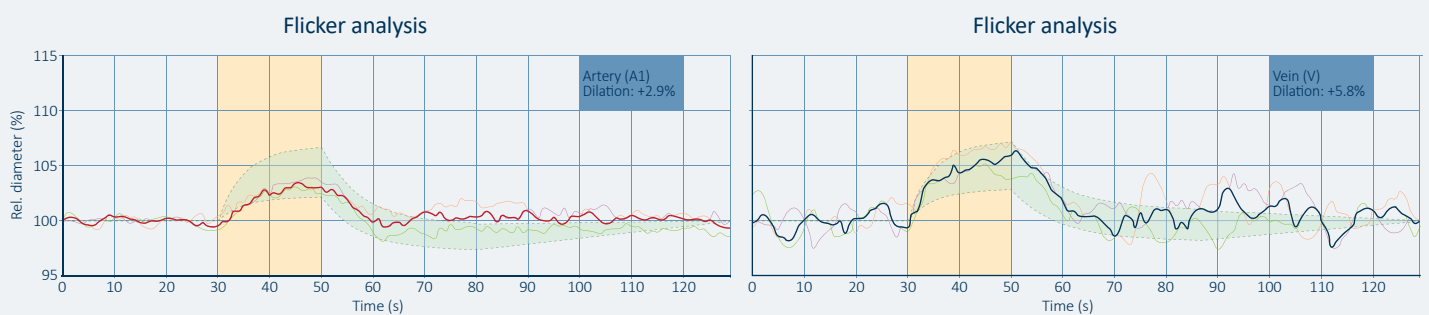

Figure 3: Graphical representation of the calculated median values of all three flicker phases for the artery (left) and vein (right).
5. Combination of all phases: The three flicker phases are combined by means of signal averaging. The median values are then calculated and displayed graphically as the examination result, like in Figure 3.